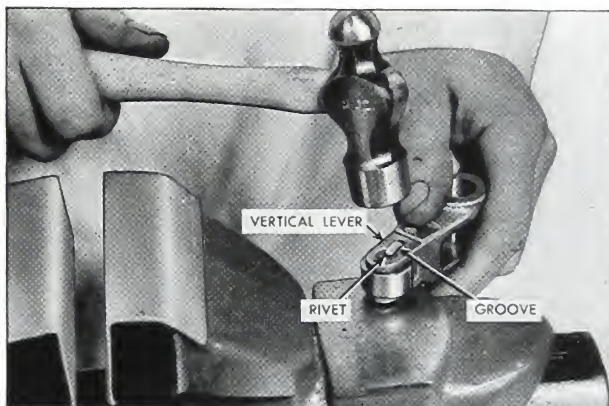

Fig. 5-103. Assembling vertical lever and roller
2. Lock the pin in position by riveting the copper rivet into the grooves on both sides of the vertical lever. File the rivet flush with the side of the vertical lever. (Fig. 5-103).